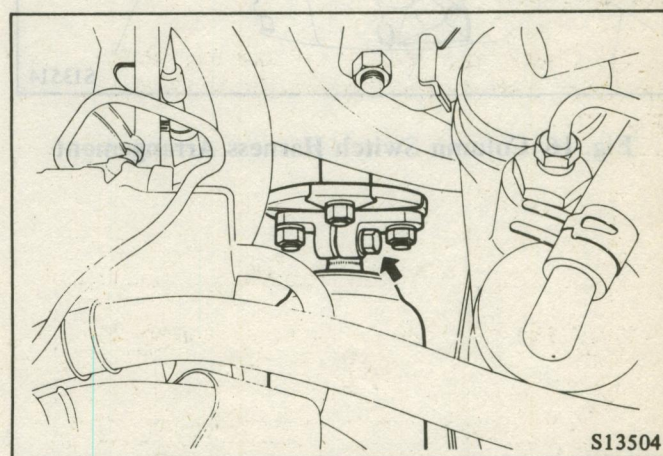

Fig. 15 Installing the Steering Shaft Clamp
(1) Insert the steering shaft assembly from inside the truck. Connect the gear housing mainshaft with bolt hole down, and the gear housing mainshaft in neutral position. Then temporarily fasten the tilt bracket to the body. (Fig. 15)